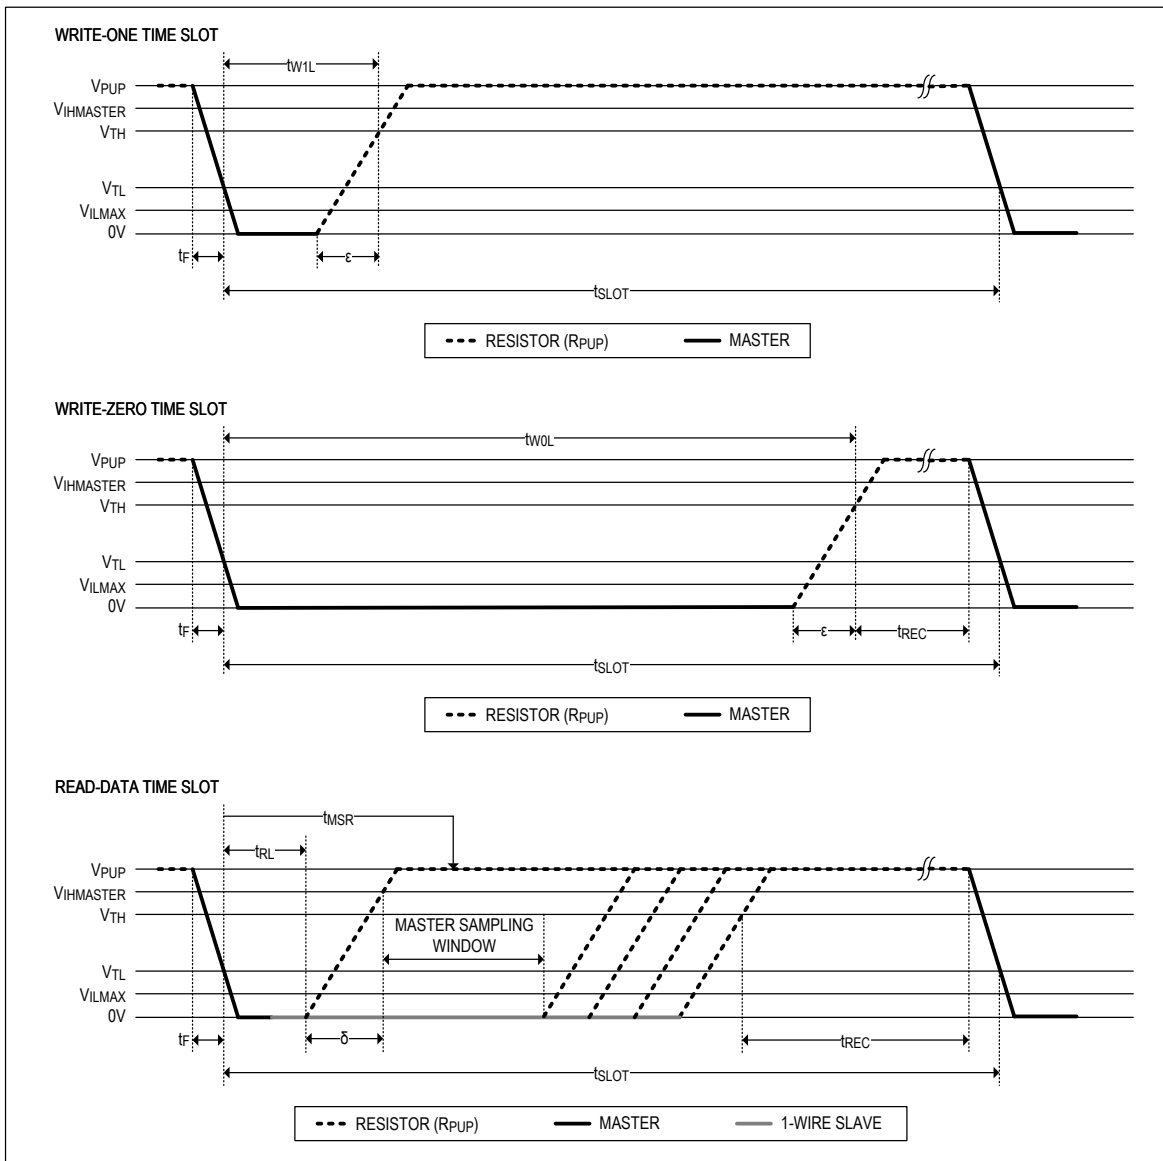

Figure 6. 1-Wire Read/Write Timing Diagrams
- Note 18:**  $\epsilon$  in Figure 6 represents the time required for the pullup circuitry to pull the voltage on IO up from  $V_{IL}$  to  $V_{TH}$ . The actual maximum duration for the master to pull the line low is  $t_{W1LMAX} + t_F - \epsilon$  and  $t_{W0LMAX} + t_F - \epsilon$ , respectively.
- Note 19:**  $\delta$  in Figure 6 represents the time required for the pullup circuitry to pull the voltage on IO up from  $V_{IL}$  to the input-high threshold of the bus master. The actual maximum duration for the master to pull the line low is  $t_{RLMAX} + t_F$ .
Data communication on the 1-Wire bus takes place in time slots that carry a single bit each. Write time slots transport data from 1-Wire master to a connected slave. Read time slots transfer data from slave to the 1-Wire master. Figure 6 illustrates the definitions of the write and read time slots.